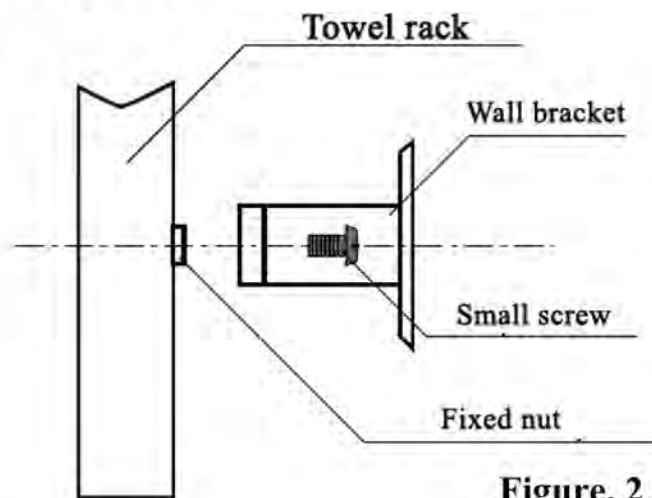

Figure. 2
3. Drill the holes for wall brackets and connection box (see figure 2).